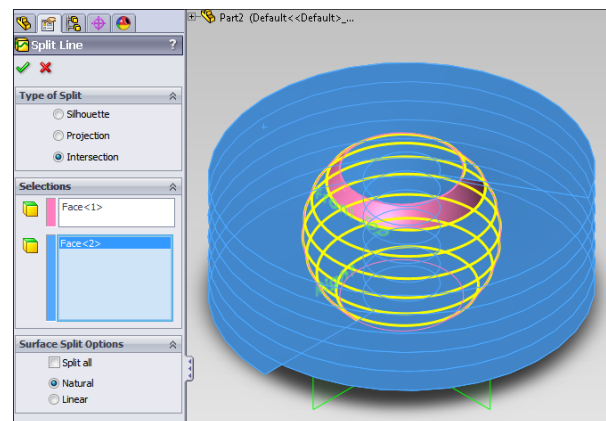

Fig.8
7. Using **Split Line**  create intersection between revolved surface and helix surface: Fig.8